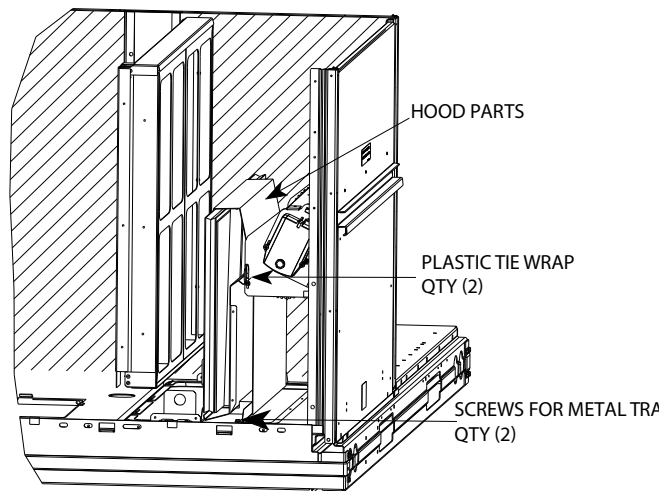

Fig. 22 — Economizer and Two Position Damper Hood Package Location (Two Position Damper Only in Size 16)
3. Locate the (2) screws holding the metal tray to the basepan and remove. Locate and cut the (2) plastic tie-wraps securing the assembly to the damper (see Fig. 22). Be careful to not damage any wiring or cut tie-wraps securing any wiring. The indoor coil access panel will be used as the top of the damper hood. Remove the screws along the sides and bottom of the indoor coil access panel.